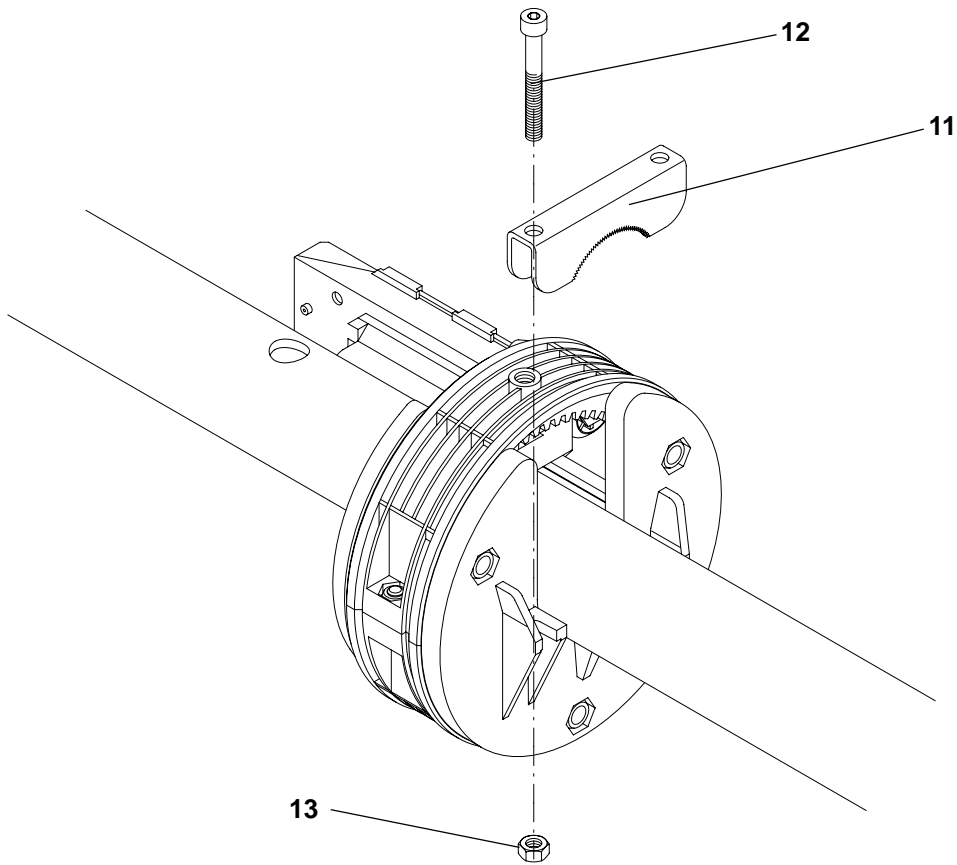

Fig.1b
To avoid perforating the bar, a clamp 11 as shown in figure 1b, can be mounted.
*Pour éviter de percer le mât, il est possible de monter l'étau 11 visible à la figure 1b.*